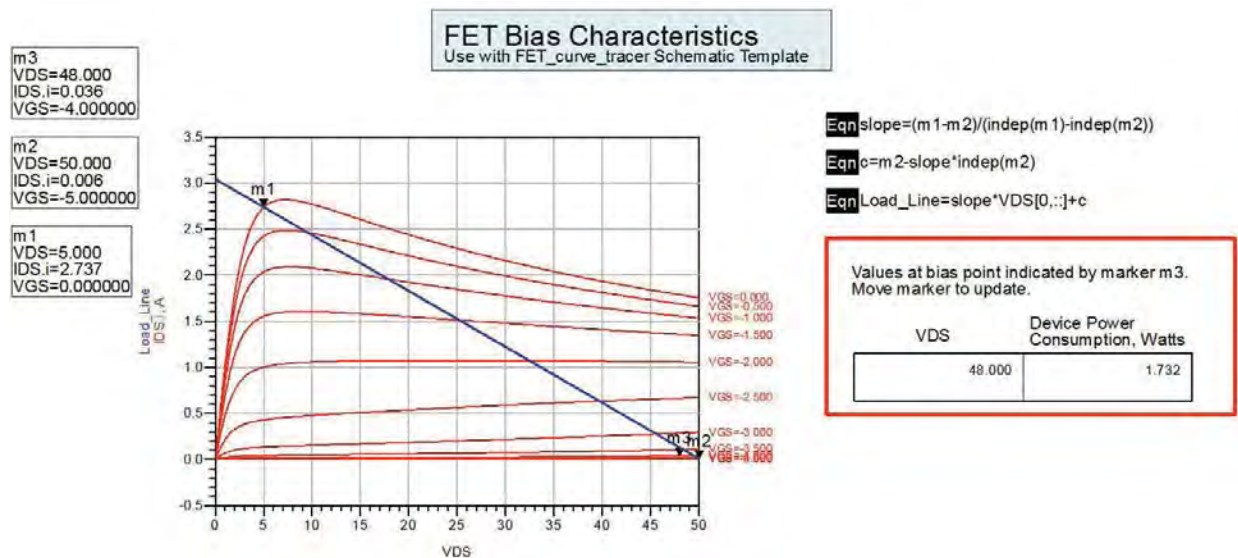

Fig 2: DC IV characteristics with Load Line
- e. Once finished data display page will look as shown below in fig 2.